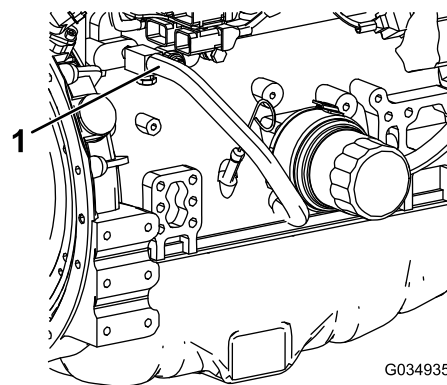

Figure 123
- Remove the coolant hose from the engine-oil cooler (Figure 123).